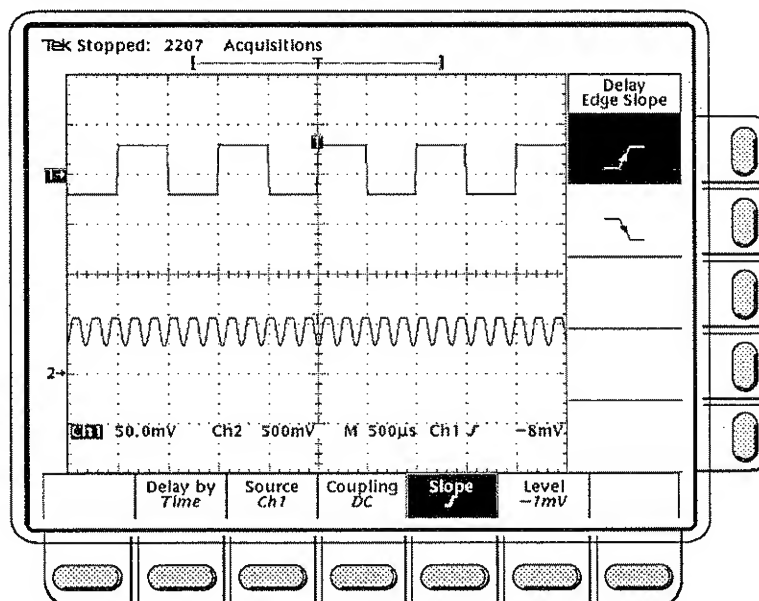

Figure 3-9: Delayed Trigger Menu – Slope
- ☐ **Step 5:** Press the main menu **Slope** item to select the slope that the delayed trigger will occur on (Figure 3-9). Alternatives are rising edge and falling edge slopes.